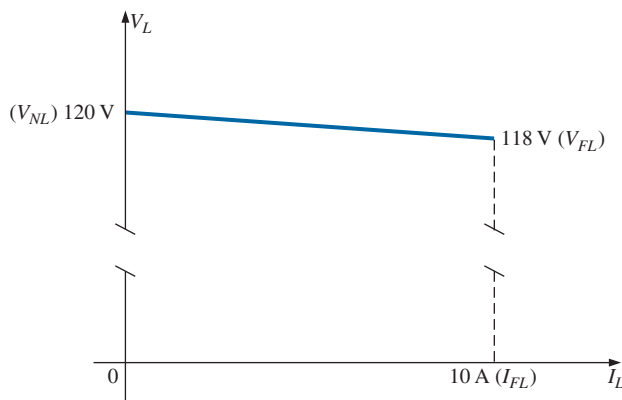

FIG. 5.70
- Given the characteristics in Fig. 5.70, determine the voltage regulation of the supply.
dc supply with the terminal characteristics of Fig. 5.70.